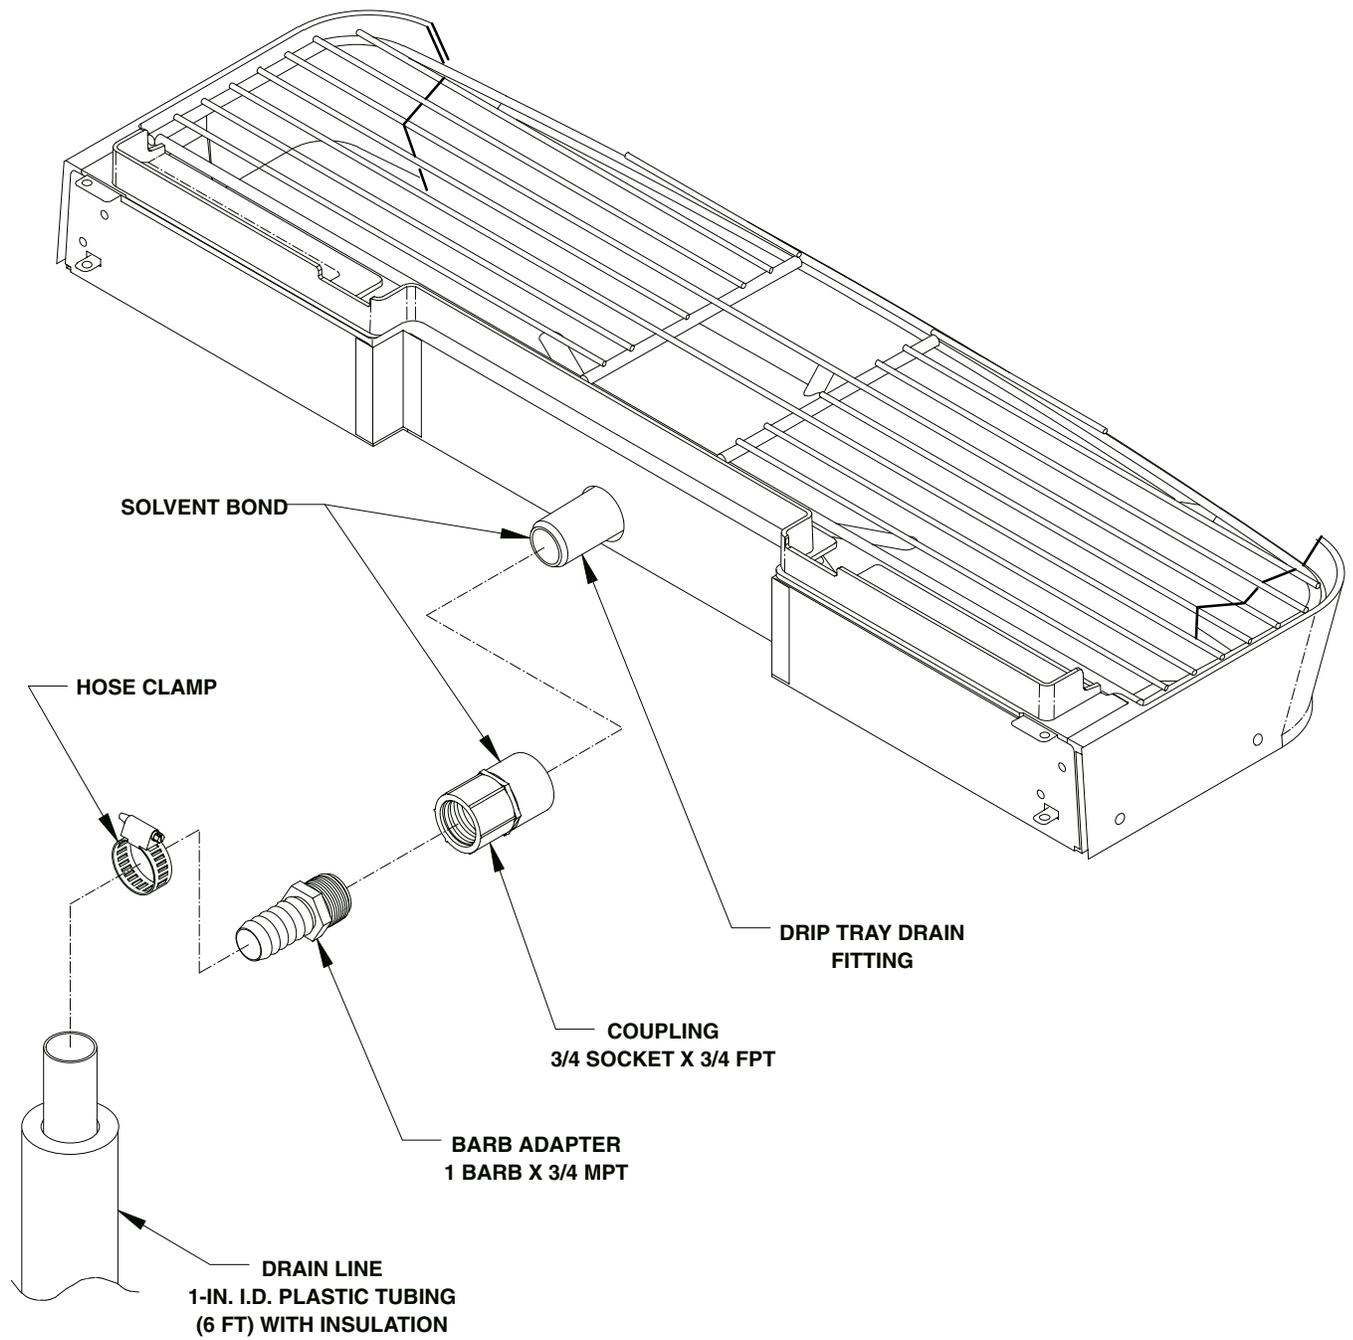

FIGURE 3. DRIP TRAY DRAIN ASSEMBLY
3. DRIP TRAY DRAIN ASSEMBLY (see Figure 3). Route the drain tube to an open drain with the end of the tube above the "flood" level of the drain. Use the tubing, fittings, and insulation provided with the Dispenser to assemble the drain. The completed drain *must* pitch continuously downward and contain no "traps" or improper drainage will result.